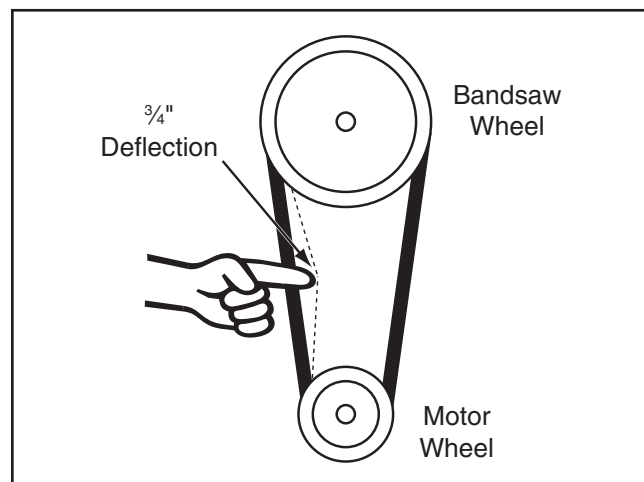

Figure 77. V-belt deflection.
5. Check the V-belt tension by applying moderate pressure between the pulleys (see **Figure 77**). If deflection is not approximately $\frac{3}{4}$ ", re-tension the V-belt until it is.